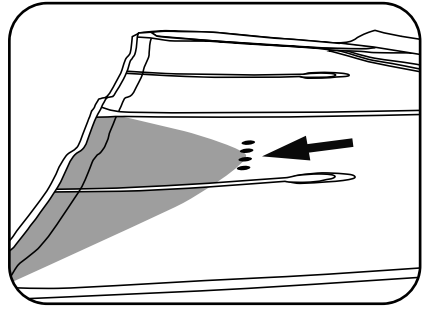

Figure 2: With the leech lying on the ground, downhaul until the looseness extends to the four dots.
- Then, downhaul until the looseness on the leech extends to the four dots printed on the upper leech of the sail (figure 2).